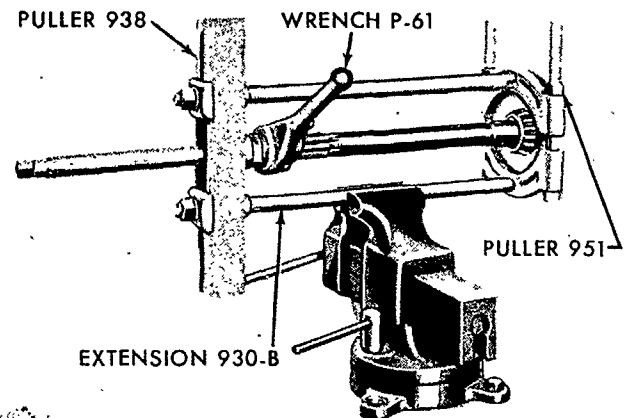

Figure 10
4. Remove the input shaft bearing with Puller No. 951, Extension No. 930-B, Puller No. 938, and Wrench No. P-61 as illustrated in Figure 10. Remove the bearing cup from the support with Bearing Cup Pulling Attachment No. 943 and Slide Hammer No. 943-S. Remove the oil seal using Puller No. 956-2 and Slide Hammer.